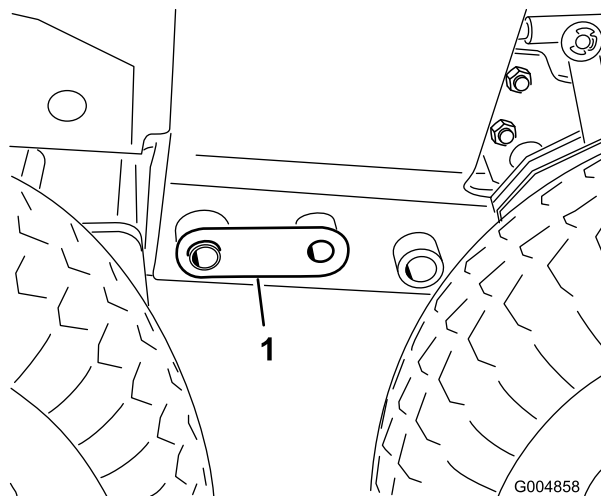

Figure 48
9. Adjust the floor jack to line up the 1.00 inch holes in the frame and install a coupler pin on each side (Figure 48).